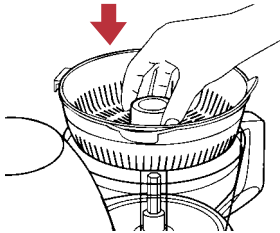

Fig 14
2. Fit the citrus juicer bowl into the food processing bowl, see Figure 14.